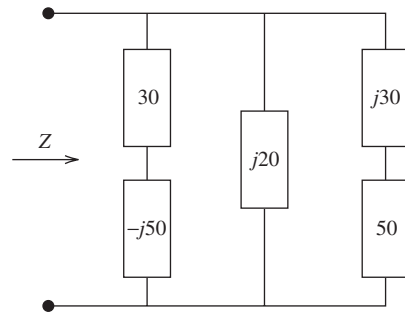

FIGURE P6.26 Circuit for Problem 6.26.
- 6.26 (A) Find Z in Figure P6.26.